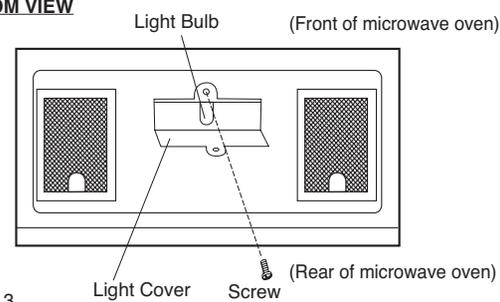

Figure 3
2. To open Light Cover, remove the screw on the light cover. (See Figure 3.)